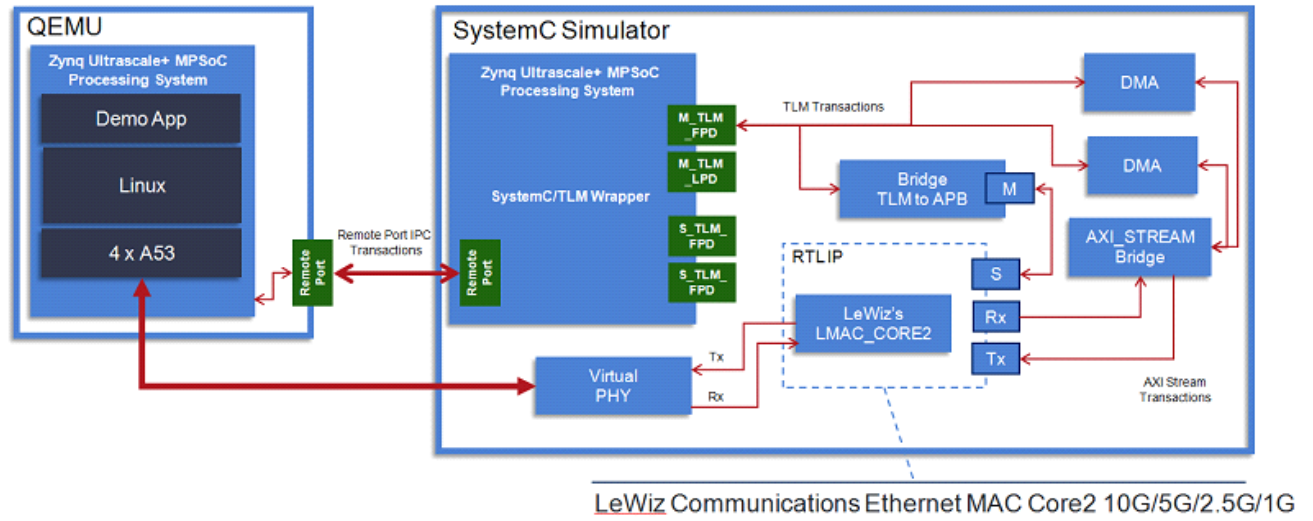

Figure 1. Block diagram of co-simulation model
Figure 1 below shows a block diagram of the co-simulation model.
- PL (Programmable Logic on the right side of Figure 1)
- PS (Processor system on the left side of Figure 1)
The SystemC simulator side also has the virtual PHY. This emulates the PHY layer of an Ethernet MAC. In the co-sim model, this PHY is virtually connected to the actual Ethernet port of the Linux host system which runs the entire co-sim environment. The Linux host system is an Intel CPU PC server runs Ubuntu Linux OS. The RTL-IP portions in the block diagram was written in Verilog and converted into equivalent C++/SystemC using Verilator. These modules communicate with the memory via DMA (Direct Memory Access) controlled by the device driver. The interconnection of the modules is done using SystemC TLM 2.0 as shown in Figure1. In the block diagram, modules “AXI_STREAM Bridge”, “Bridge TLM to APB” and also there is a bridge between the virtual PHY and LMAC core called “TLM to XGMII” and “XGMII to TLM”, these were developed in SystemC TLM 2.0.